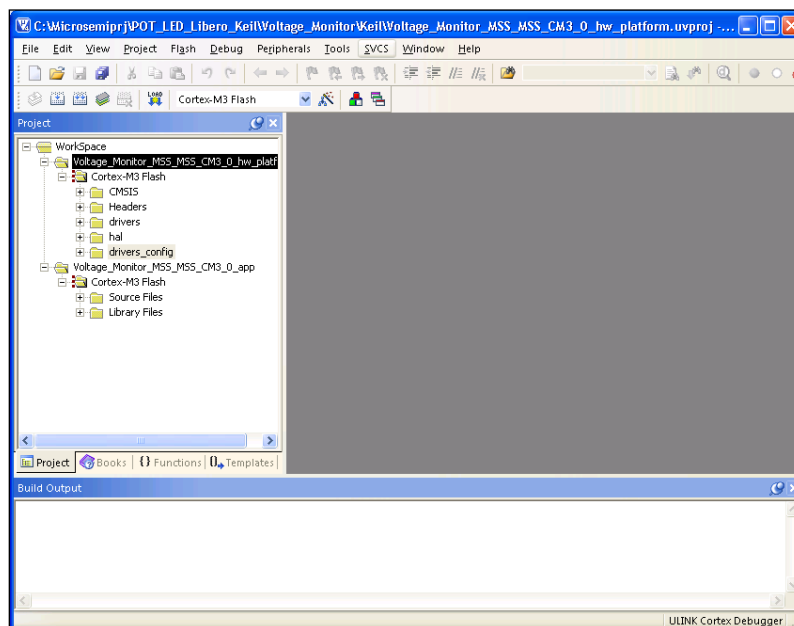

Figure 28 · μ Vision4 Project
2. The μ Vision perspective looks like Figure 28 ·